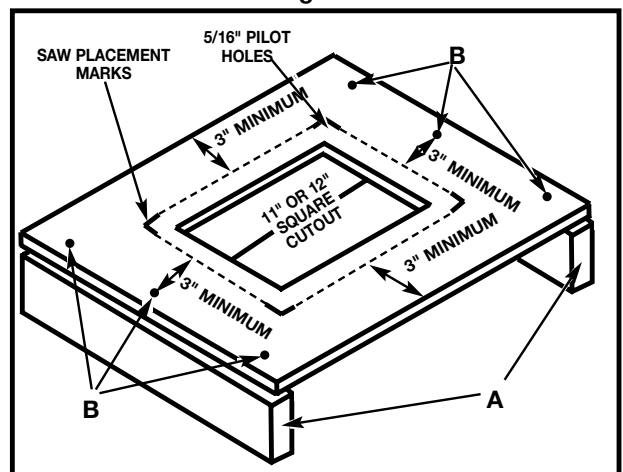

Fig. 4B
You can also construct a simple elevated support, as shown in Fig. 4B.
Square the saw on the supporting surface and mark the location for four 5/16 inch holes to be drilled (Fig. 4B).
Set the saw aside and then drill holes in these marks. Locate and mark an 11" or 12" square centered between the four mounting holes. Cut out and remove the square (Fig. 4B). To elevate the supporting surface, measure two 2x4s (A) Fig. 4B to the width of two opposite sides of the supporting surface. Attach the supporting surface to the narrow edges of the 2X4s (as shown in Fig. 4B) using wood screws (not provided) in at least three spots (B) Fig. 4B on each side.